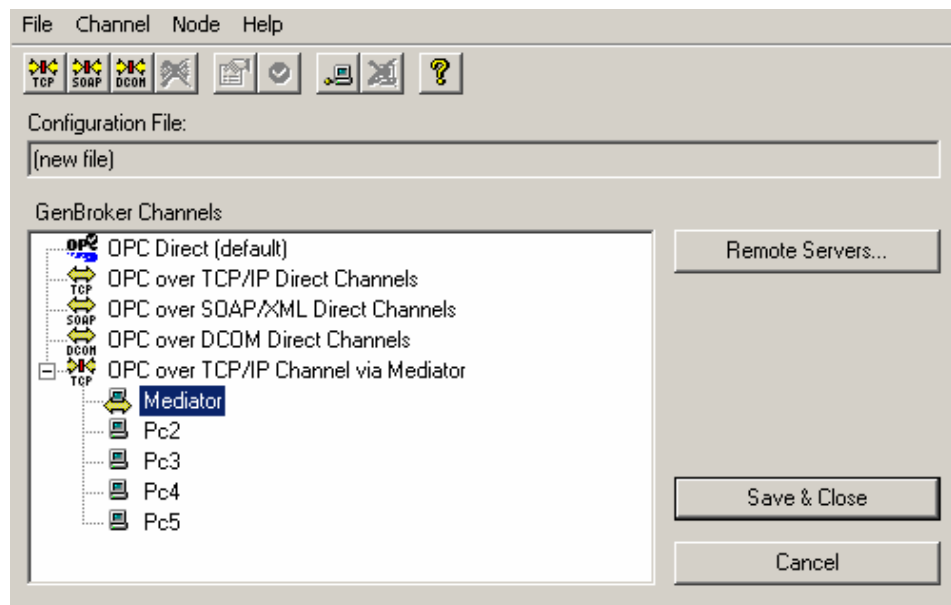

Figure 5.7. Configuring a Mediator Node
1. Select **Add TCP/IP Channel** from the **Channel** menu. This opens the **Select a Node** dialog box. Specify a name for the mediator node (for example, "Mediator") in the **Node Name or IP Address** field, and then click **OK**. The new channel will appear in the GenBroker Configurator screen as **OPC over TCP/IP Channel via Mediator**, and the new mediator node will appear below the new channel, as shown in Figure 5.7.
2. Now add PC2, PC3, PC4, and PC5 to the new TCP/IP channel. Right-click **OPC over TCP/IP Channel via Mediator** and select **Add Node** from the pop-up menu. This opens the **Select a Node** dialog box. Enter **PC2** in the **Node Name or IP Address** field, and then click **OK**. The node name will appear below the channel, as shown in Figure 5.7. Repeat this procedure for PC3, PC4, and PC5.